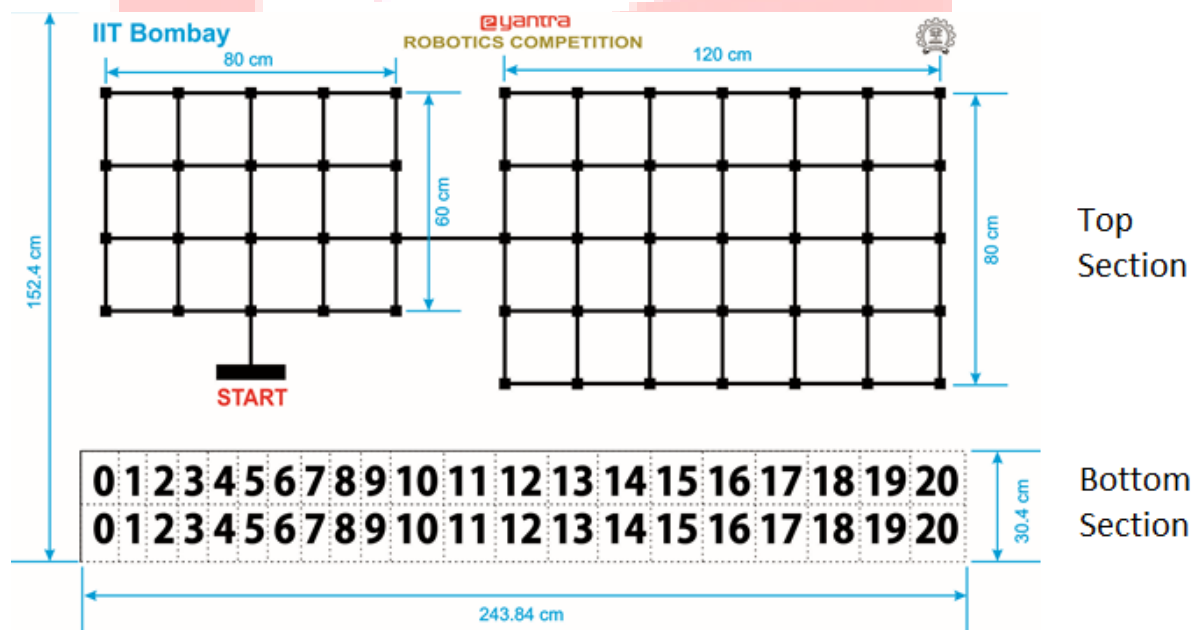

Figure 2: Arena Design; Top – Arena section, Bottom – Patch section
3. Arena design is shown in Figure 2. It is divided into two sections,
Details of Arena design (Refer to Figure 2):